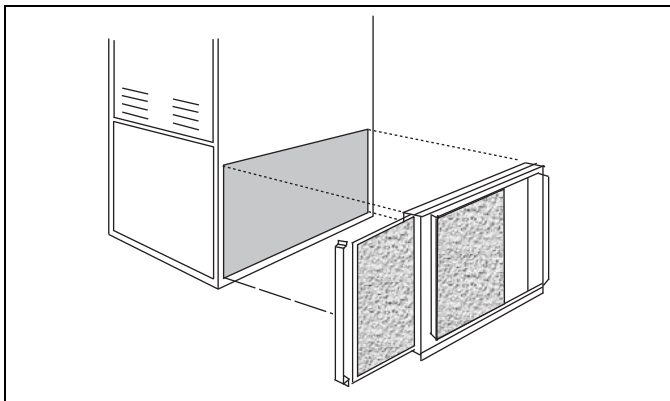

FIGURE 9: Side Return Filter Rack in the Horizontal Position
2. Remove the cover on the front of the filter box by removing the retaining screw or knob that secures the cover to the box. The external filter box may be located on one side or both sides of the furnace cabinet. Refer to Figure 9 for filter box locations.